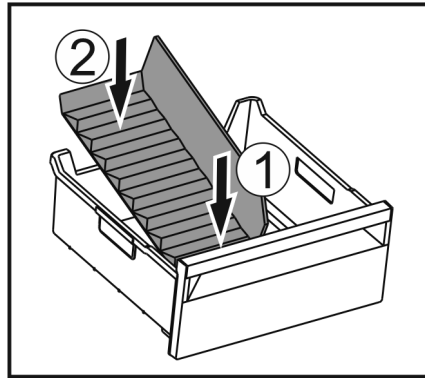

Fig. 191
- ▶ Insert the front part of the ice compartment divider. Fig. 191 (1)
- ▶ Lower the rear part of the ice compartment divider to the drawer bottom. Fig. 191 (2)